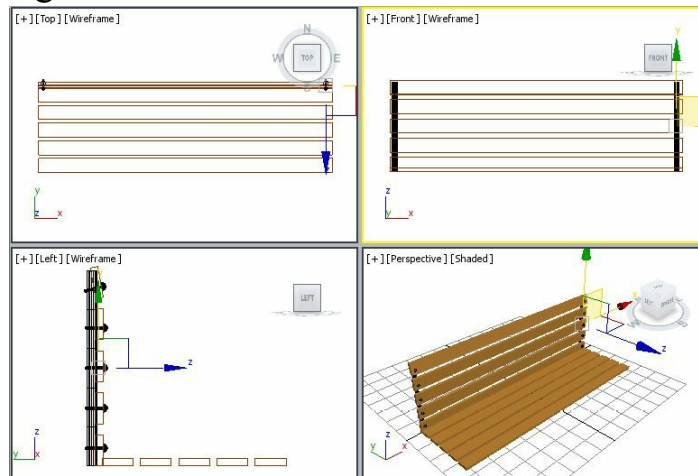

Figure 2-80 The right side rivets group displayed in viewports
2. In the **Clone Options** dialog box, make sure the **Copy** radio button is selected. In the **Name** text box, enter **right side rivets** to modify the name of the group and choose **OK**; *right side rivets* group is displayed, as shown in Figure 2-80.